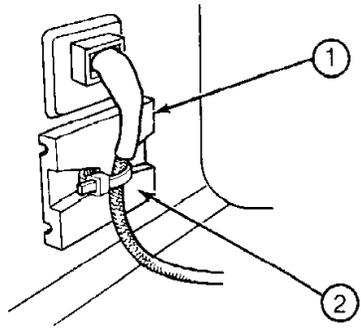
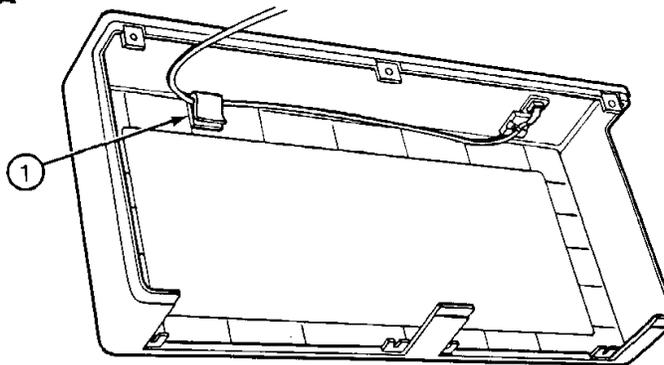

FIGURE 5
FIGURE 7B
8. With the LED plug free from the connector on the controller board, you can now remove the LED from the cover. First, remove the LED cable from the white holder (Figure 5, Item 1). Use the diagonals to cut the white plastic tie holding the cable just below where the LED is installed in the cover and remove the tie. (Figure 5, Item 2).
9. Next, remove the other end of the LED cable from the other holder in the cover. This holder may be a clamp like the one shown in Figure 7B, Item 1 or another holder like the one shown in Figures 5 and 6.